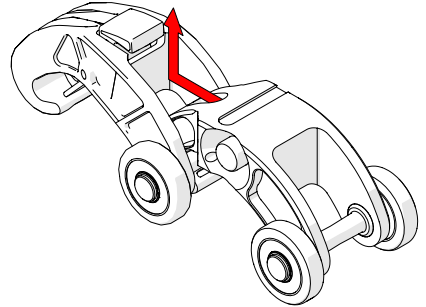

Fig. 44 - Slide Dovetail QuickLink forward and lift
2. While pressing the red button, slide the Dovetail QuickLink forward and up, clearing the hook of the Dovetail QuickLink from the 2nd QuickLink's axle (*Fig. 44*).